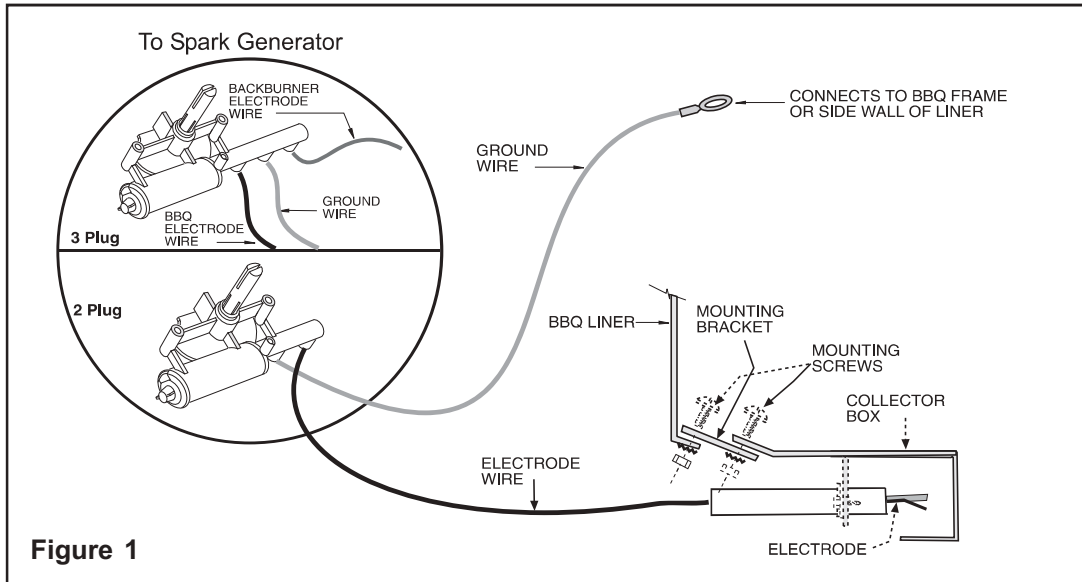

Figure 1
- Attach the new electrode collector box assembly to the barbecue liner with the screws and nuts provided as shown in Figure 1.
- If the mounting bracket is not attached to the barbecue liner as illustrated in Figure 1, bend the old electrode out of the way and remove the adjusting screw from the mounting bracket at the top of the old collector box assembly. Attach the new collector box and electrode to the old mounting bracket with the adjusting screw (Figure 1).